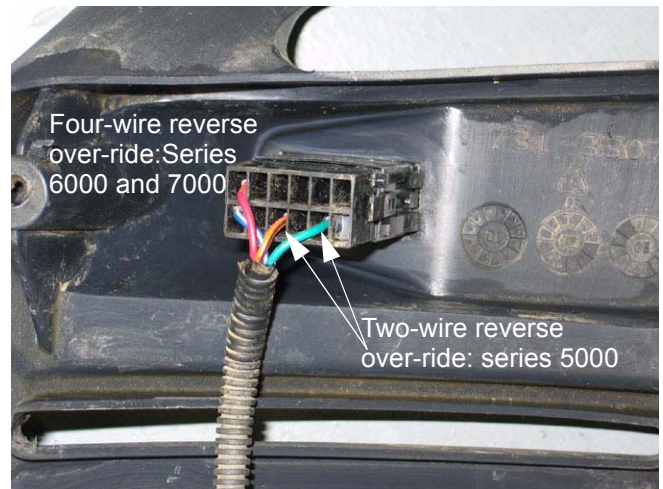

Figure 2.17
2.17. On Series 6000 and domestic Series 7000, there are four wires to the switch. See Figure 2.17.